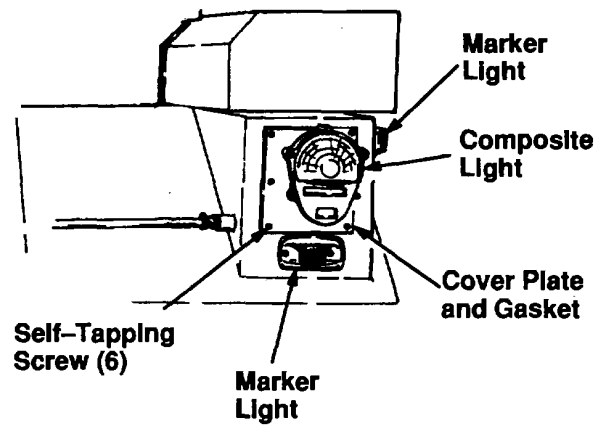
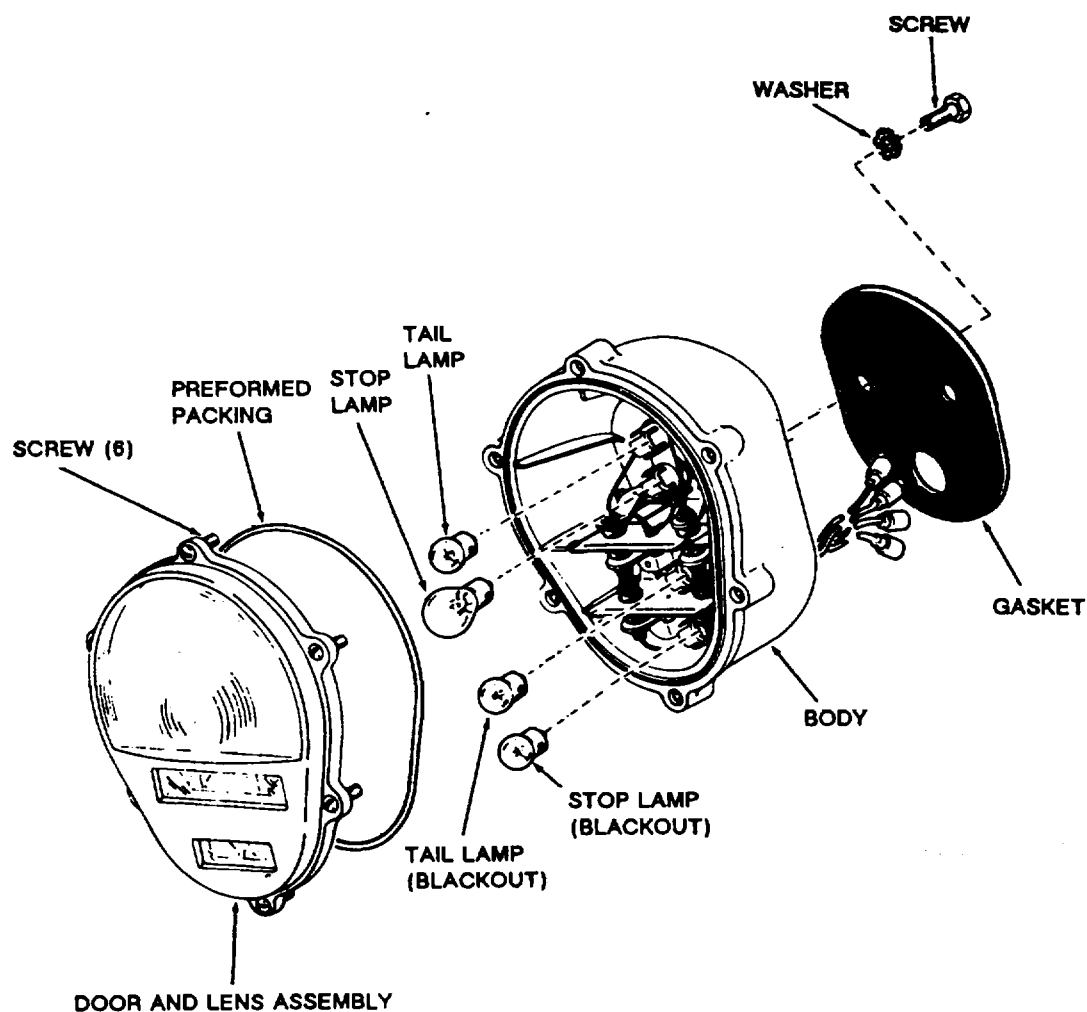

Figure 4-15. Composite Light
Figure 4-17. Exploded View of Composite Light
(1) Loosen six captive screws which fasten door and lens to body, fig. 4-17.
(2) Remove door and lens and preformed packing.
(3) Remove defective lamp and install a new lamp.
(4) Inspect preformed packing and replace if damaged.
(5) Inspect door and lens assembly. If damaged, replace. Secure door and lens assembly to body assembly with six screws.
(1) Loosen six self-tapping screws that fasten cover plate to semitrailer. Remove cover plate and gasket, fig. 4-15.
(2) Disconnect light wires from harness.
(3) Remove the two capscrews and lockwashers that attach composite light to plate, fig. 4-17.
(4) Remove composite light and gasket.
(1) Fasten composite light and gasket to cover plate with two lockwashers and capscrews, fig. 4-17.
(2) Connect light wires to the harness.
(3) Install cover plate and secure with six self tapping screws.